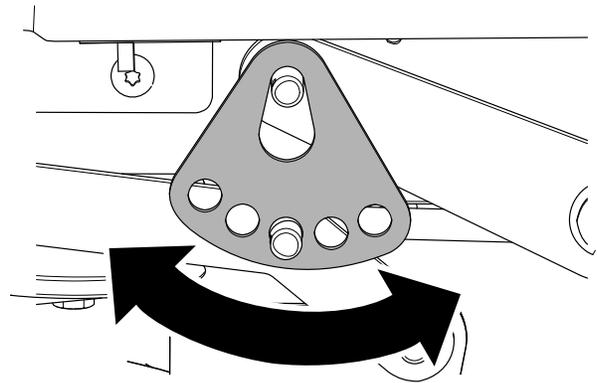

Figure 61
- Rotate the height-of-cut plate to a different hole so that it supports the weight of the mower deck after you install the plate (Figure 61).
- Install the washer and hairpin cotter (Figure 61).